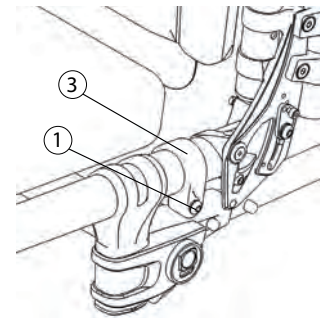

Fig. 11
- Reinstall screw (1) directly on the frame clamp (3) (Fig. 11)
- Tighten screw (1) until it is properly tightened.